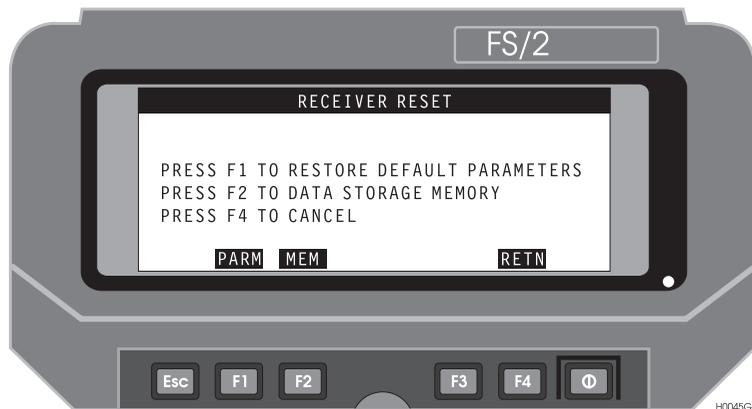

Figure 3.5: Receiver Reset Menu
4. Press shift **F2 (RSET)**. The Receiver Reset menu appears, Figure 3.5.